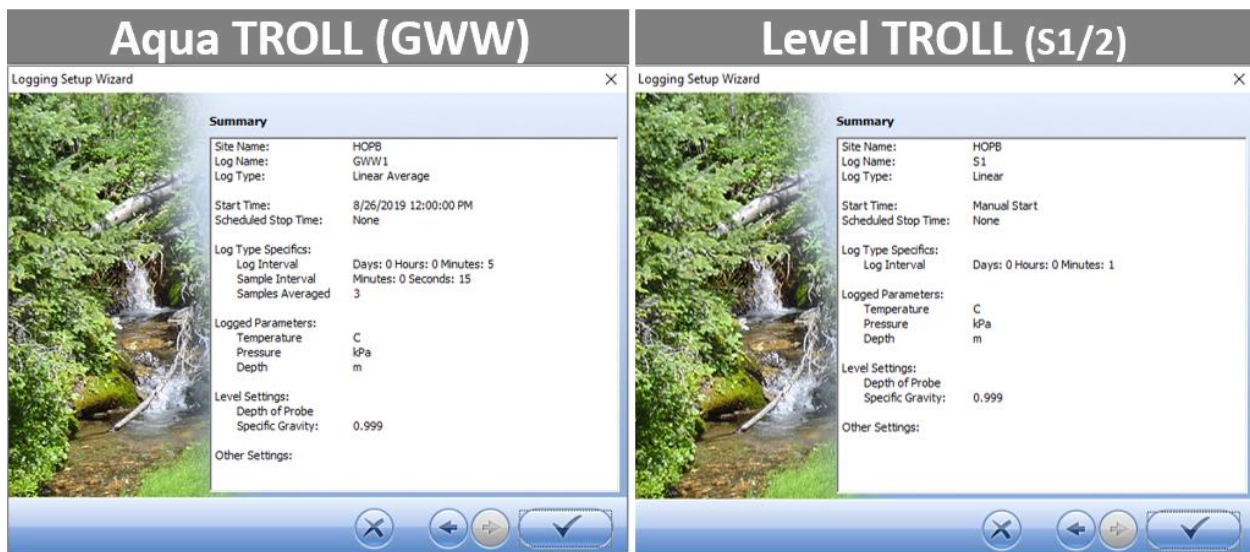

Figure 18. Logging Configuration Summary Examples
10. Confirm the logging configuration settings by reviewing the final Summary. **Figure 18** provides an example summary for an Aqua TROLL in a GWW and a Level TROLL at a stream site. Click the “✓” to continue.